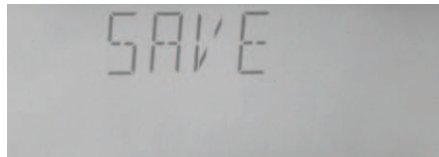

Figure 4-41 Saving system setup
- a) Select "SAVE" through **◀** or **▶** key, as shown in Figure 4-41.